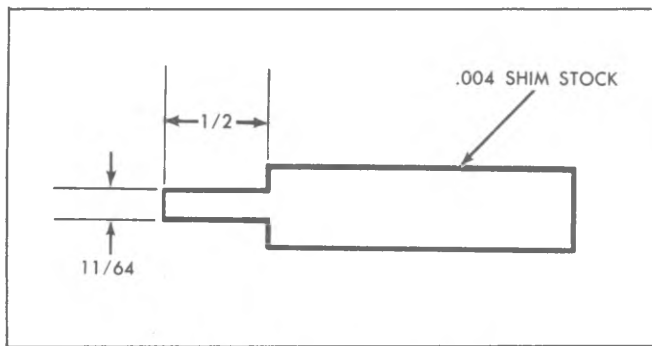

Fig. 6A2-59--Oil Seal Installation Tool
The rear main bearing oil seal can be replaced (both halves) without removal of the crankshaft. Extreme care should be exercised when installing this seal to protect the sealing bead located in the channel on the outside diameter of the seal. An installation tool (fig. 6A2-59) can be used to protect the seal bead when positioning seal as follows:
2. Remove oil seal from the bearing cap by prying from the bottom with a small screw driver (fig. 6A2-60).
hammer to tap a brass pin punch on one end of seal until it protrudes far enough to be removed with pliers (fig. 6A2-61).